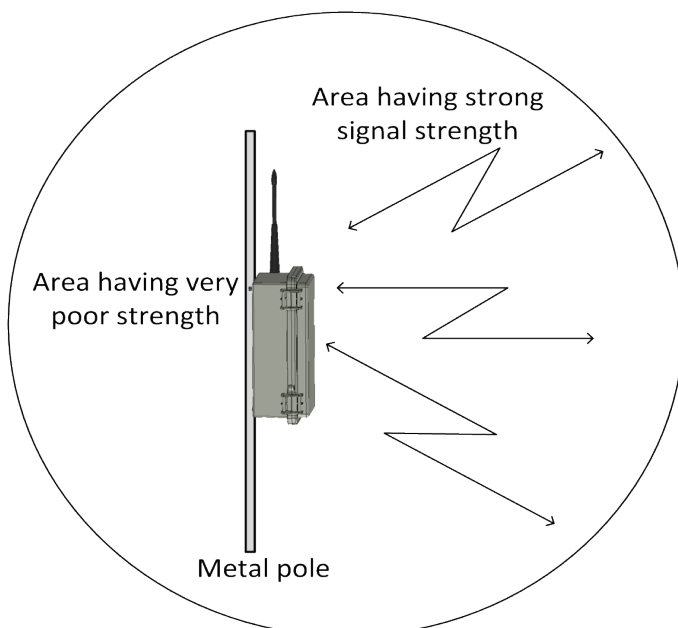

Figure 12: Transmission Area
- Install the RLINK ONE only on the side of the poles facing the main office. Signal strength behind the RLINK ONE is extremely poor (Figure 12).
NOTE *If you are using a metal pole, refer to Figure 12.*